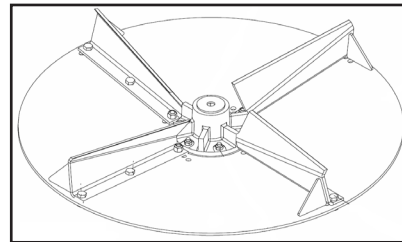

Figure 2 - RH spinner disc - gussets point clockwise
- Figure 2 - Gusset faces clockwise for righthand disc.